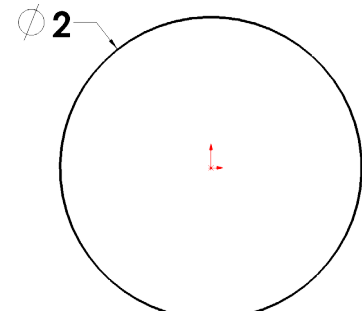

Fig. 3
Step 5. Click **Smart Dimension**  (S) on the Sketch toolbar.
Step 6. Dimension circle **diameter 2**, **Fig. 3**.